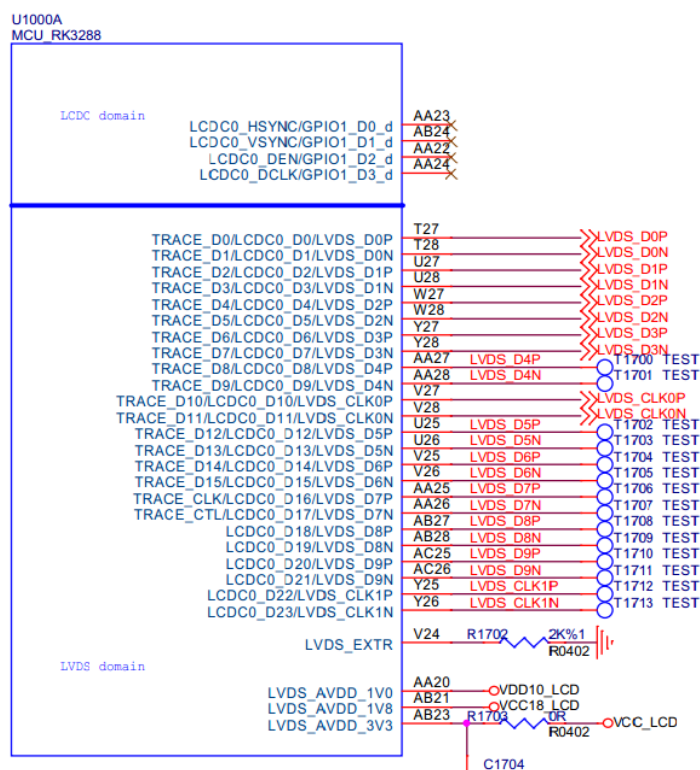

Figure 14-6
- When using LVDS and RGB functions, LVDS_AVDD_1V0, LVDS_AVDD_1V8 and LVDS_AVDD_3V3 are all requiring power supply, while the power supply is not needed when no using, shown as Figure 14-6.